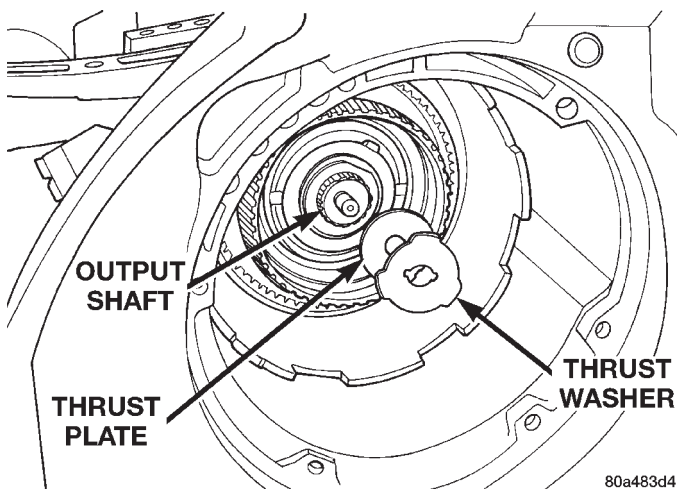

Fig. 77 Output Shaft Thrust Plate and Washer
(20) Remove output shaft thrust washer from output shaft (or from rear clutch hub) (Fig. 77).
(21) Remove output shaft thrust plate and washer from output shaft hub (Fig. 77).